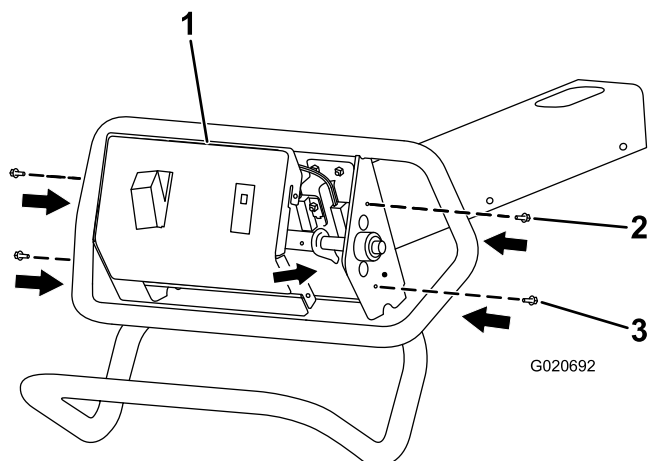

Figure 4
5. Align the holes of the cover with the holes of the frame (Figure 4).
6. Insert the panel into the frame (Figure 4).
7. Loosely assemble the panel to the frame using the 2 hex-head bolts (#10-24 x 1/2 inch) at the upper hole locations (Figure 4).